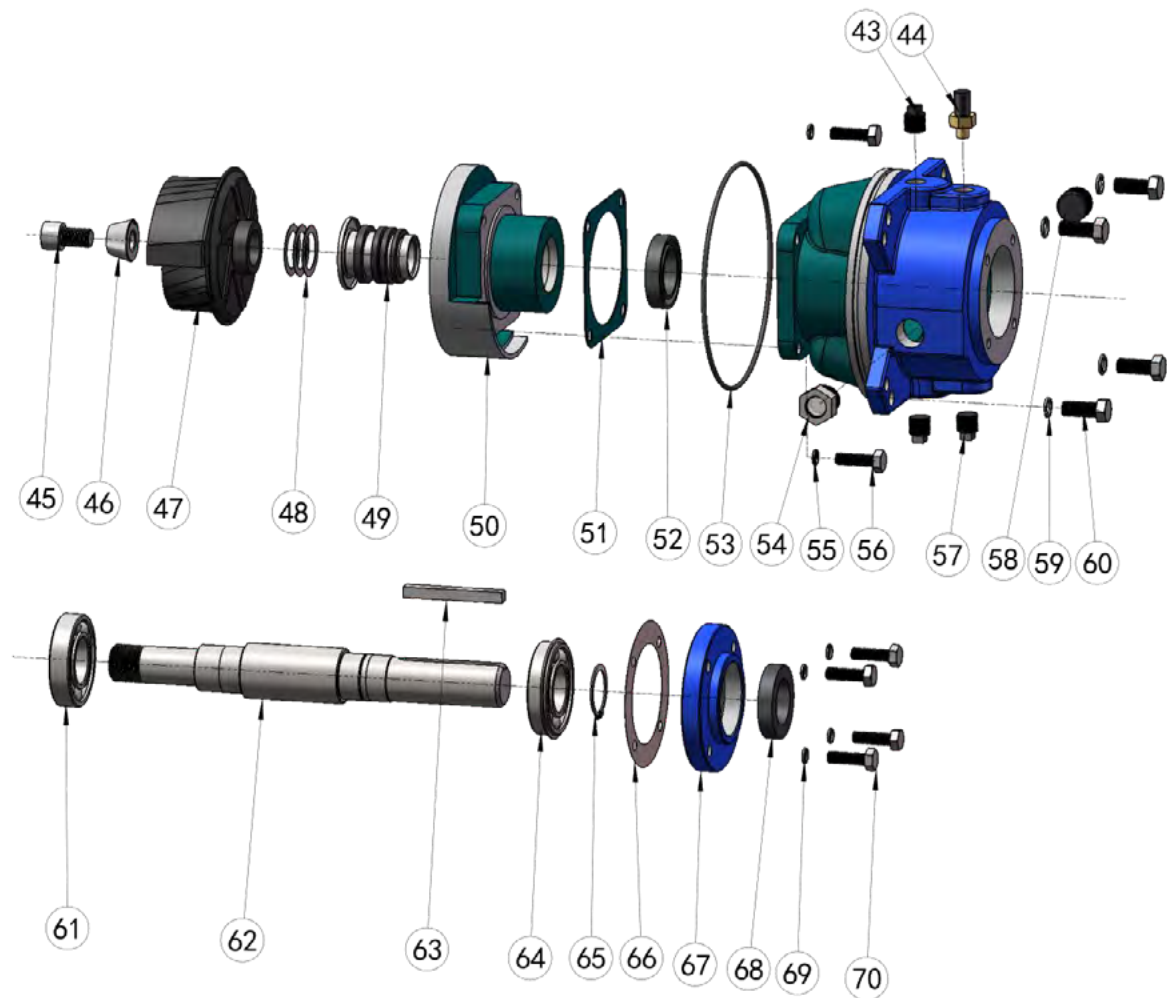

Figure E-2 Rotating Assemblies
## Rotating Assembly Removal (Figure E-2)
### **Impeller Removal (Figure E-2)**
### **Shaft and Bearing Removal and Disassembly (Figure E-2)**
## Shaft and Bearing Reassembly and Installation (Figures E-2)
Press the outboard oil seal (68) into the bearing cap (67) with the lip positioned as shown in Figure E-2. Replace the bearing cap gasket (66) and secure the bearing cap with the hardware (69 and 70). Be careful not to damage the oil seal lip on the shaft keyway.